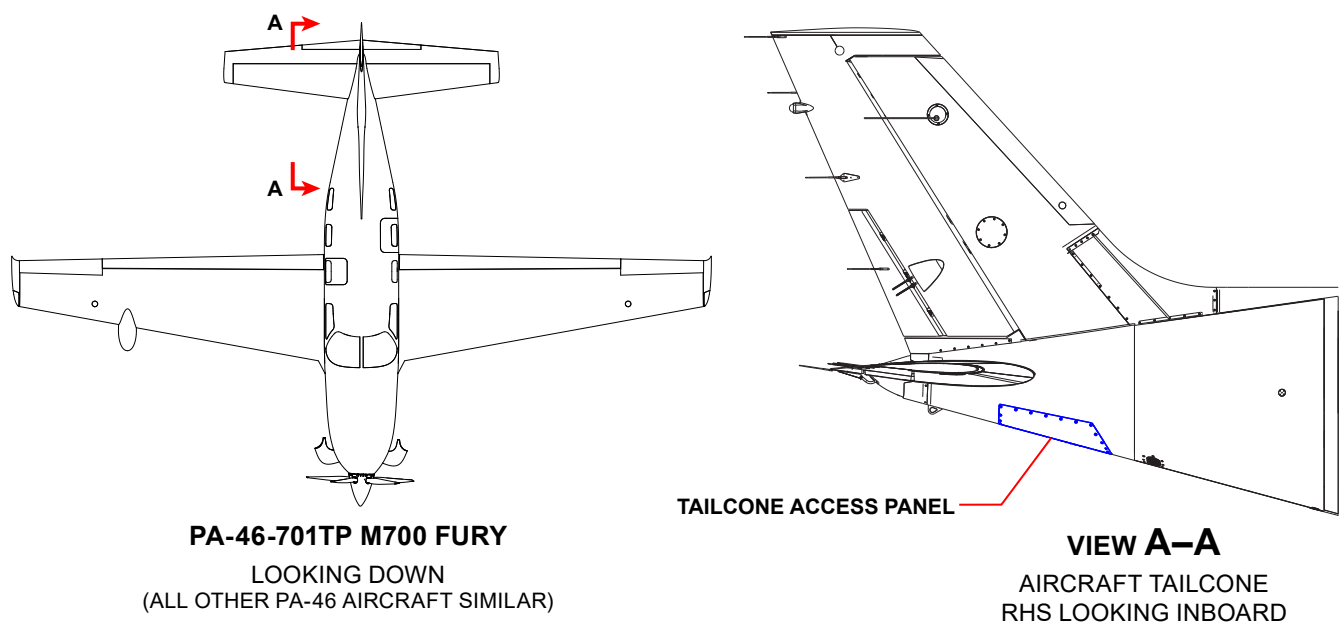

Figure 1
1. Gain access to rudder drive cables by removing the skin access cover located on bottom right side of the tailcone as shown in Figure 1.